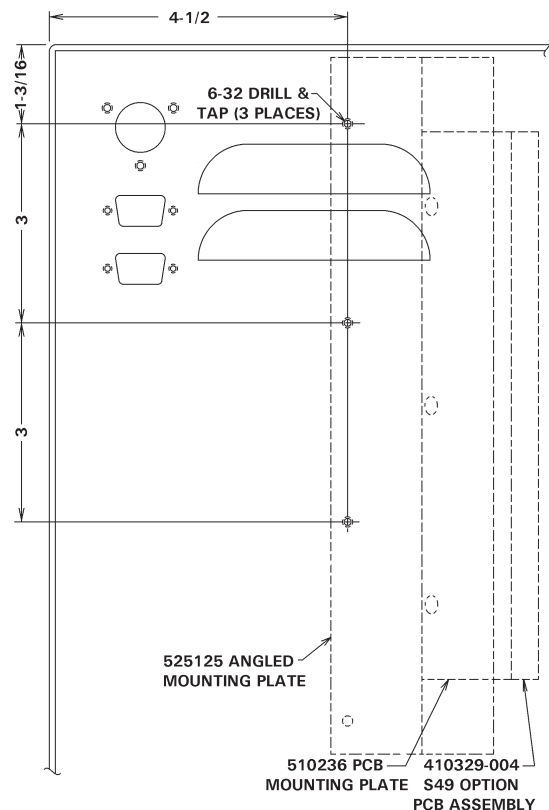

Figure C-2. Mounting detail for
2. Drill rear panel of cabinet as indicated in Figure C-2. Mount angled bracket (P/N 525125) using the 6-32 x 3/8 Screws, Split Lockwashers and Nuts provided. Mount the PCB Mounting Plate (A/N 510236) using three (3) of the 6-32 x 1/4 Screws and Lockwashers.
3. Mount the S49 Option PCB (A/N 410329-004) to standoffs on the PCB Mounting Plate with the J4 connector at the top, using four (4) 6-32 x 1/4 PHSMS, Phil., Brite (see Figure C-2).